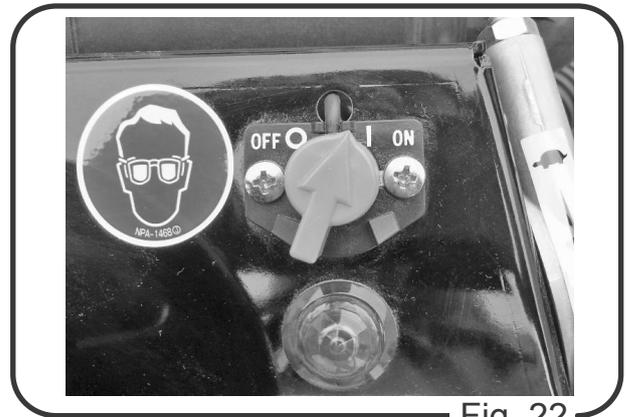

Fig. 22
2. Turn the stop switch to ON (I) side. (Fig. 22)